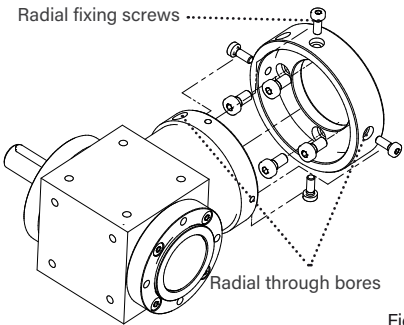

Fig. 1
**Attention!** The radial through bore in the motor flange and the bore in the gearbox must be in alignment. (Fig. 1)